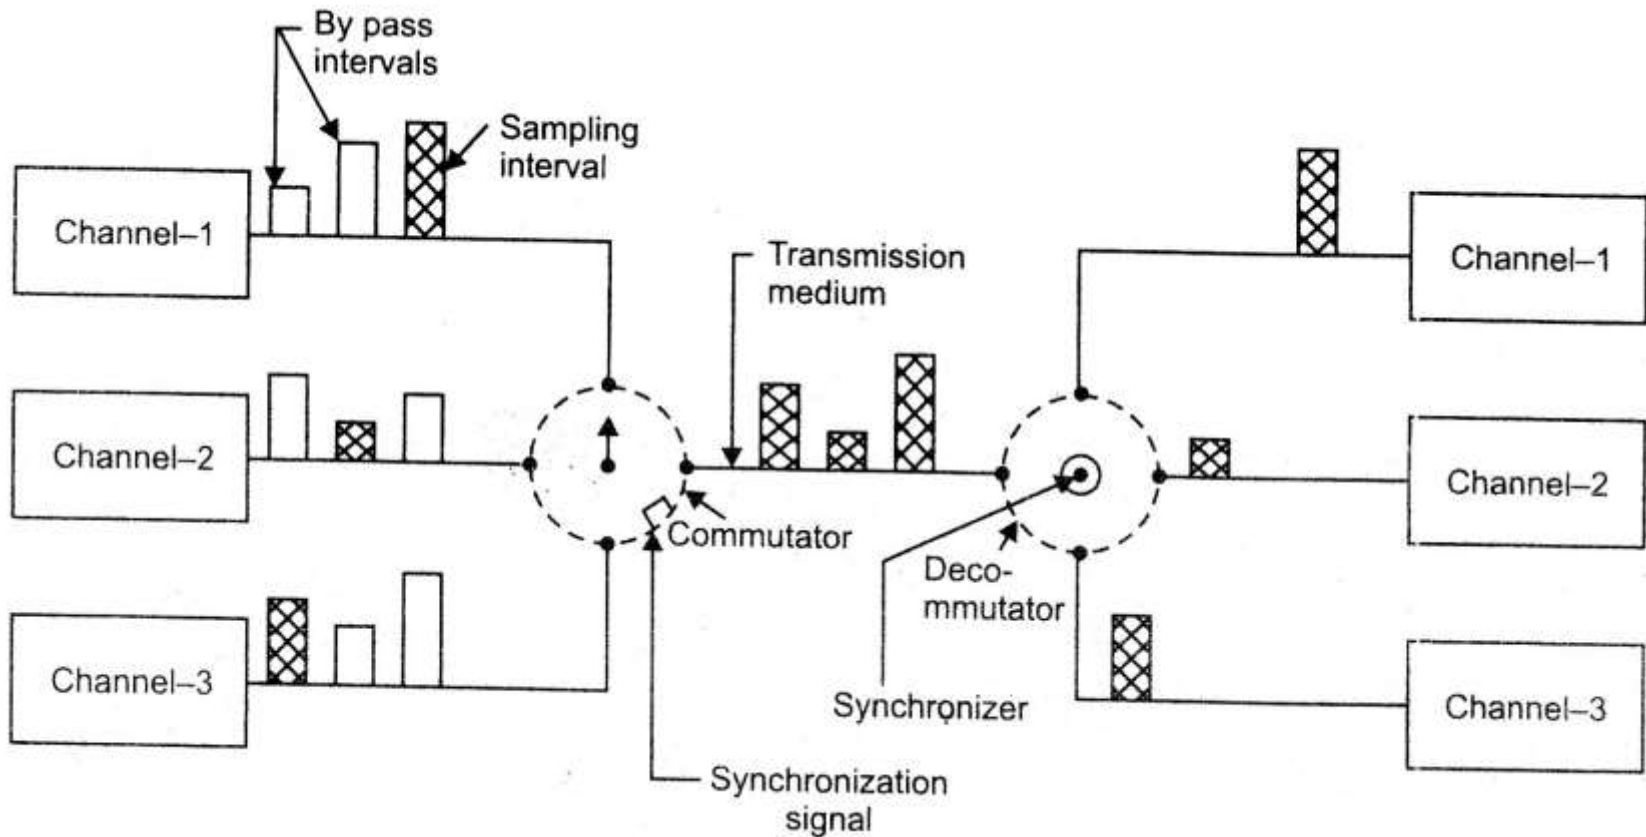

**Fig. 19.13.** Modem interfacing block diagram.
- Fig. 19.13 shows a modem interfacing block diagram :